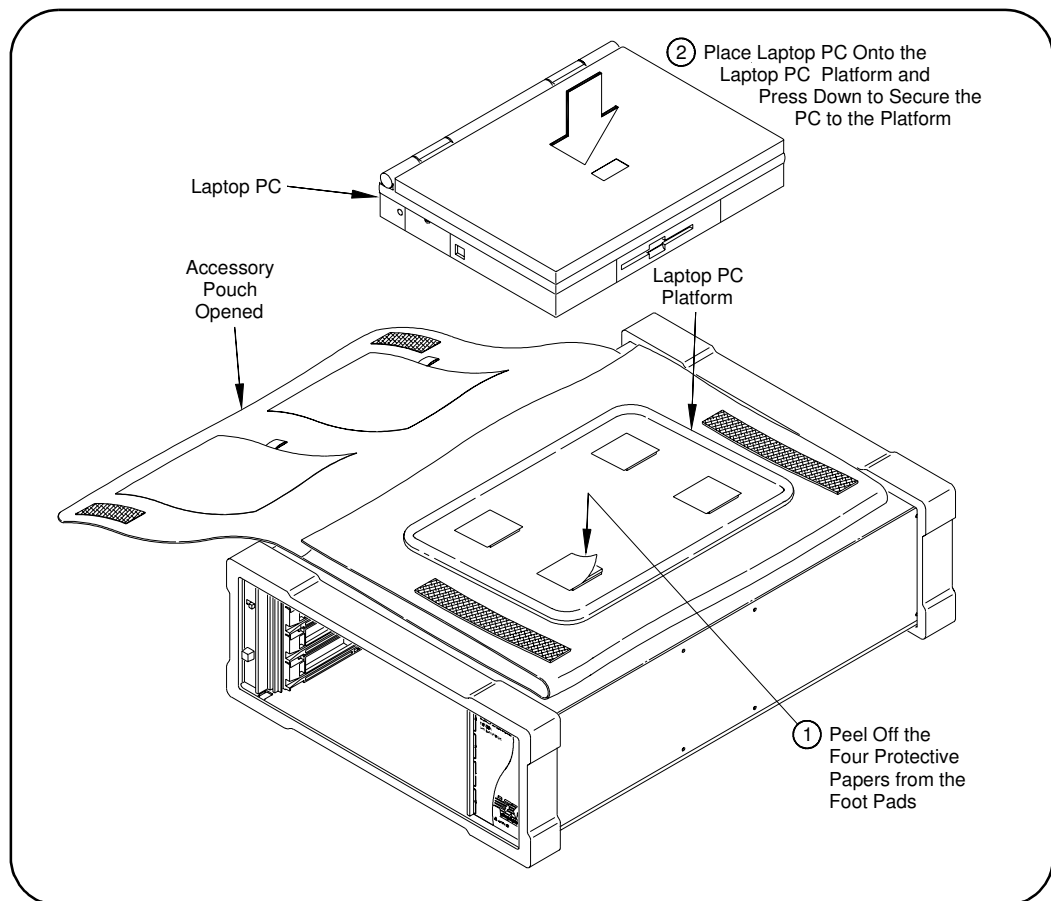

Figure 2-2. Attaching Laptop PC to Accessory Pouch
- 3 Follow the steps in Figure 2-2 to attach the PC to the Laptop PC Platform.